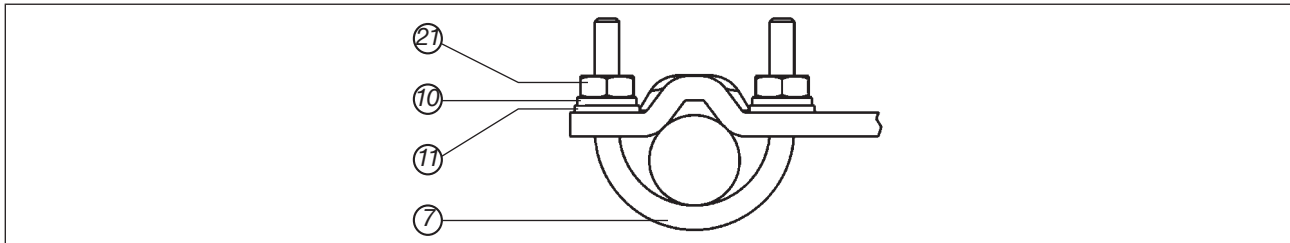

Figure 26: Attach positioner with mounting bracket; for actuators with columnar yoke
→ Attach mounting bracket to the columnar yoke with the U-bolt ⑦, washers ⑪, circlips ⑩ and hexagon nuts ⑫ (see “Figure 26”).